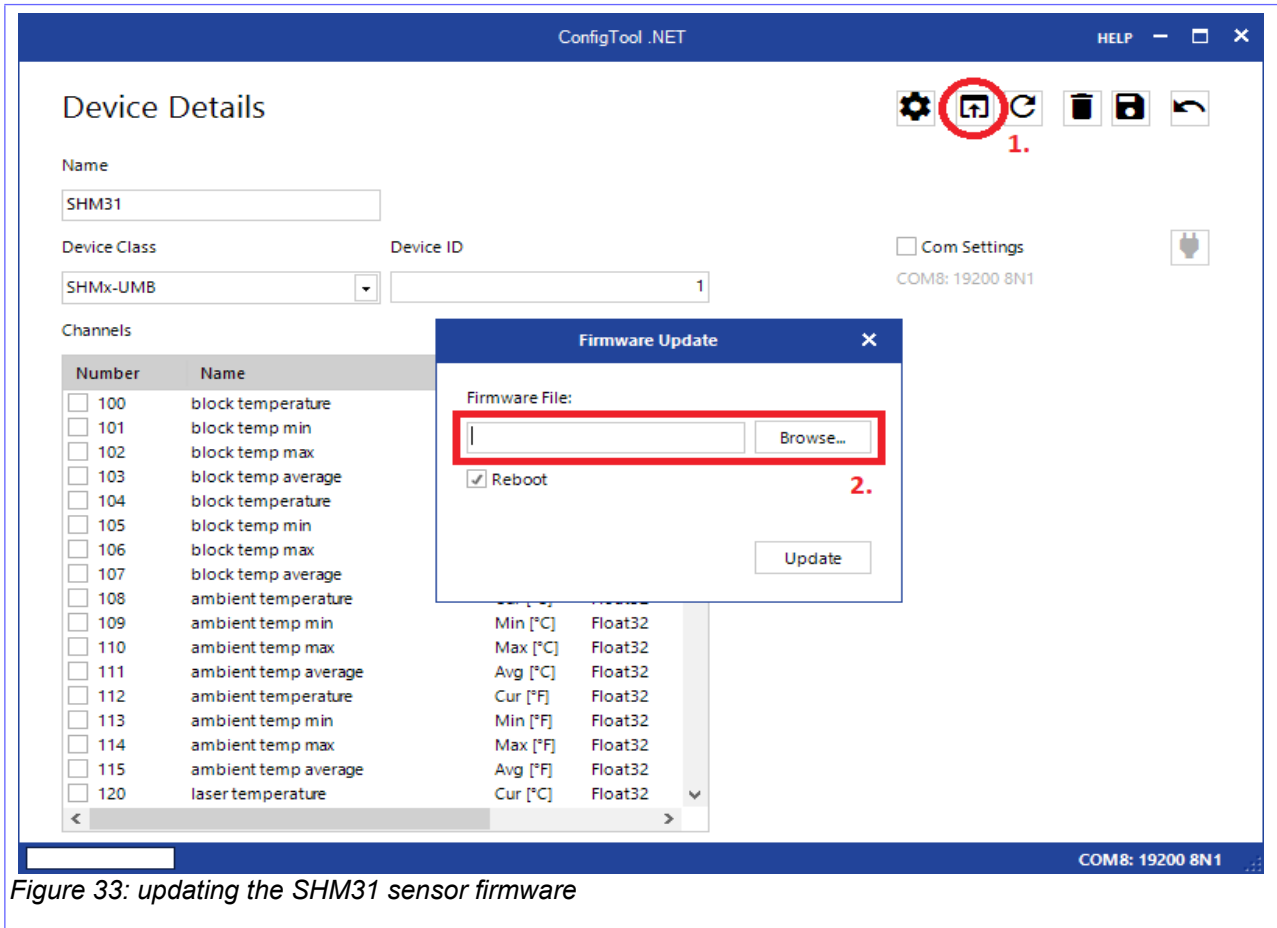

Figure 33: updating the SHM31 sensor firmware
4. click on the update-button and select the previously downloaded firmware file in the “firmware update” window (*figure 33*)